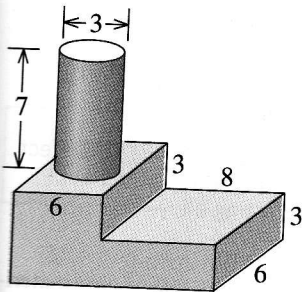

Figure 9-24 Step-block casting (for Problem 9-26).
- 9-26** Figure 9-24 shows a cylindrical riser attached to a casting. Compare the solidification times for each casting section and the riser and determine whether the riser will be effective.